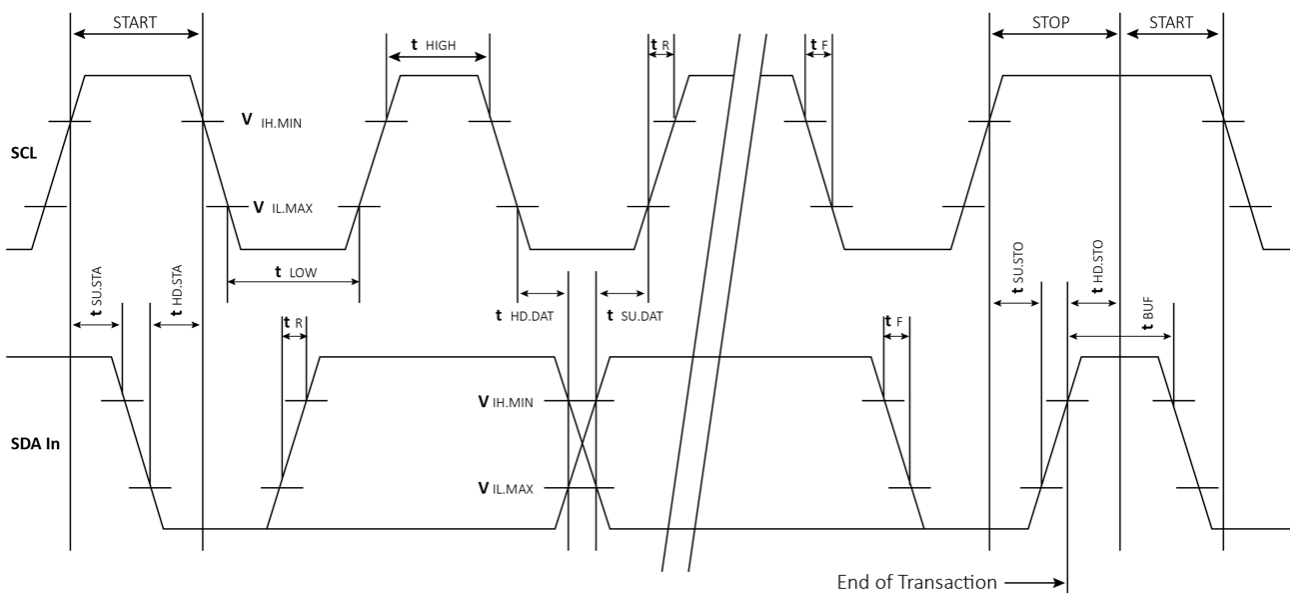

Figure 1: OSFP Timing Diagram
**Device Addressing:** OSFP devices require an 8-bit device address word following a start condition to enable a read or write operation. The device address word consists of a mandatory sequence for the first seven most significant bits in Figure 1. This is common to all OSFP devices.